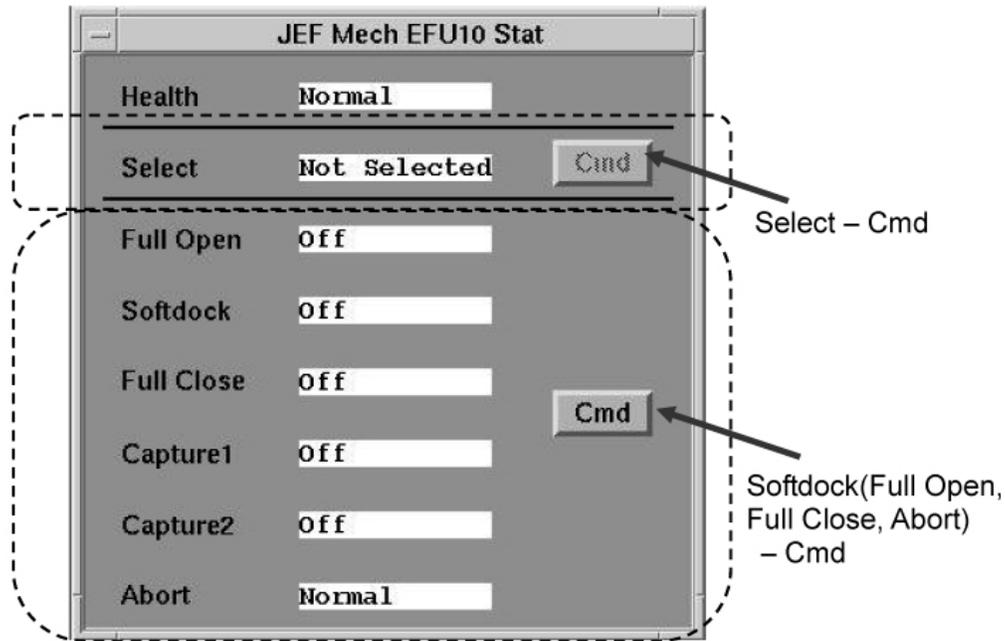

Figure 1. EFU Cmd Buttons.
* sel Abort - Cmd (Refer to Figure 1.)